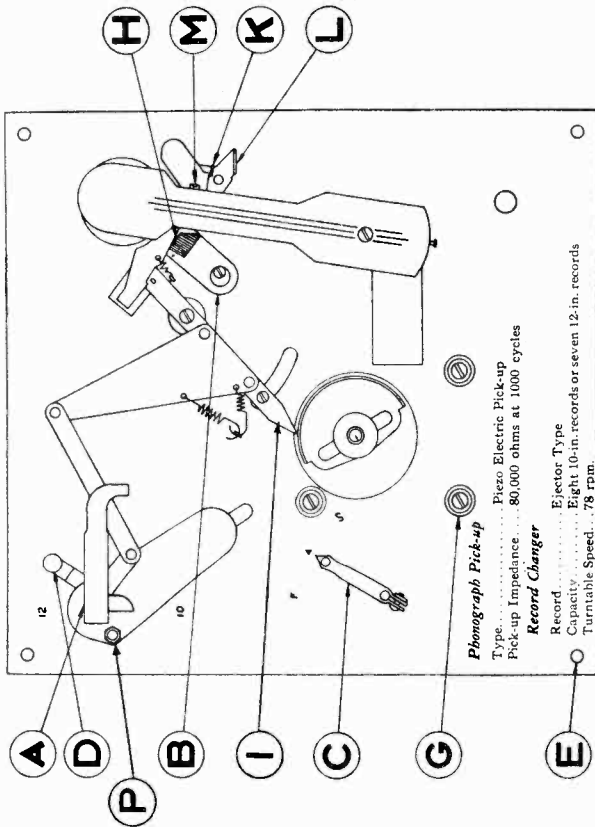

Fig. 8. Automatic Record Changer Mechanism
Place the tonearm of the record changer in the position which results when the latch bar (I) is against the turntable motor cam at its furthest operating throw. (This position is the other extreme of the operating cycle as shown on Figure 8.) The tonearm stop should be against the cone-shaped cup of the dash pot while in the 10-inch position.
To play 12-inch records, referring to Figure 8, pull the thumb stop (K) on the right-hand side of the tonearm forward which allows the needle to locate on the edge of the record, also push the knob (D) at the left rear corner of the changer from 10 inch to 12 inch as marked on the base plate. Either 10-inch or 12-inch records may be repeated as often as desired by lifting the record removing arm (A) to an upright position.